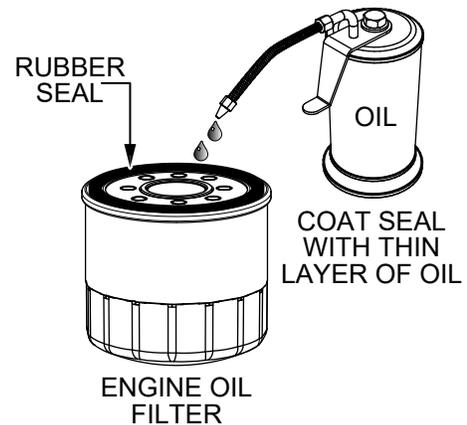

Figure 36. Oil Filter
- Coat the seal of the new oil filter (Figure 36) with clean engine oil. Install the new filter by hand until it contacts the engine sealing surface, then tighten it another 1/2 to 3/4 turn. **DO NOT** use a strap wrench or similar tool to tighten the filter.